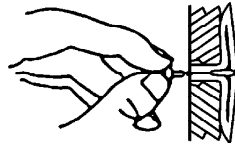

Figure 9 - Popping Open Anchor Wing For Thin Walls
4. For thin walls (1/2" or less), insert red key into wall anchor. Push red key to "pop" open anchor wings. (see Figure 9).